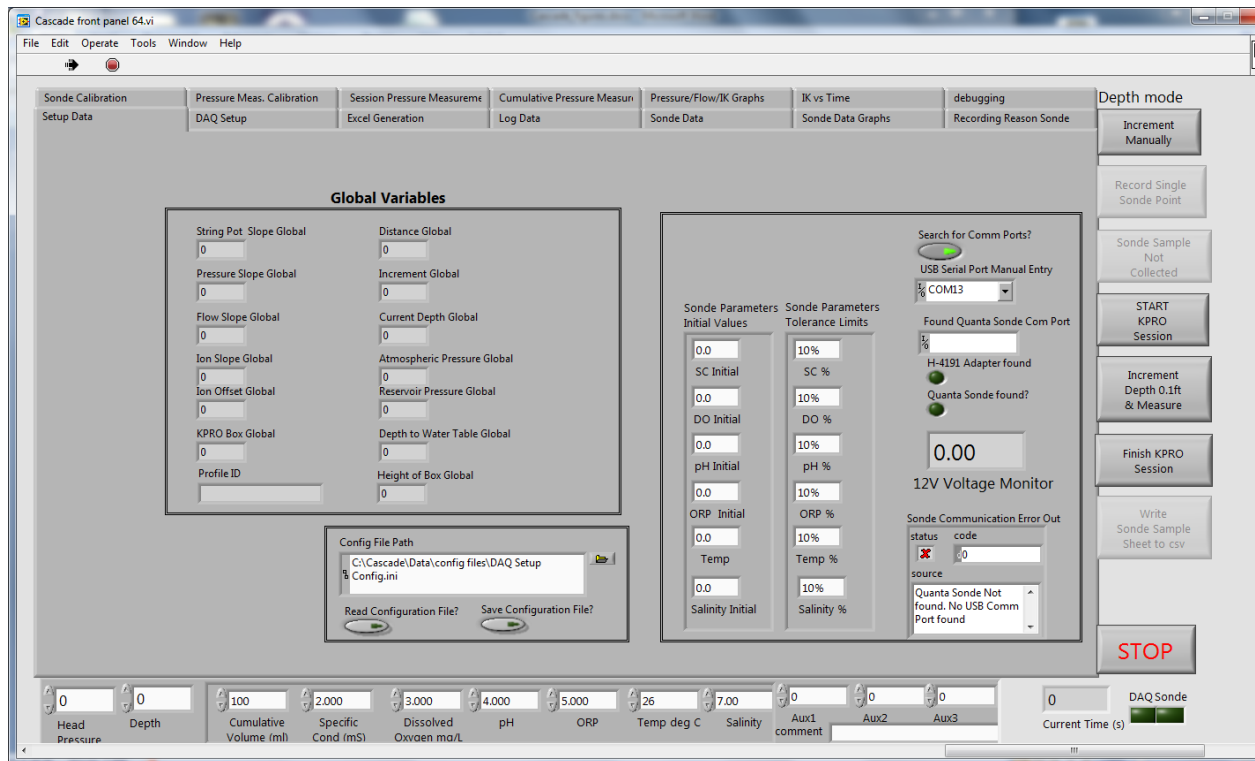
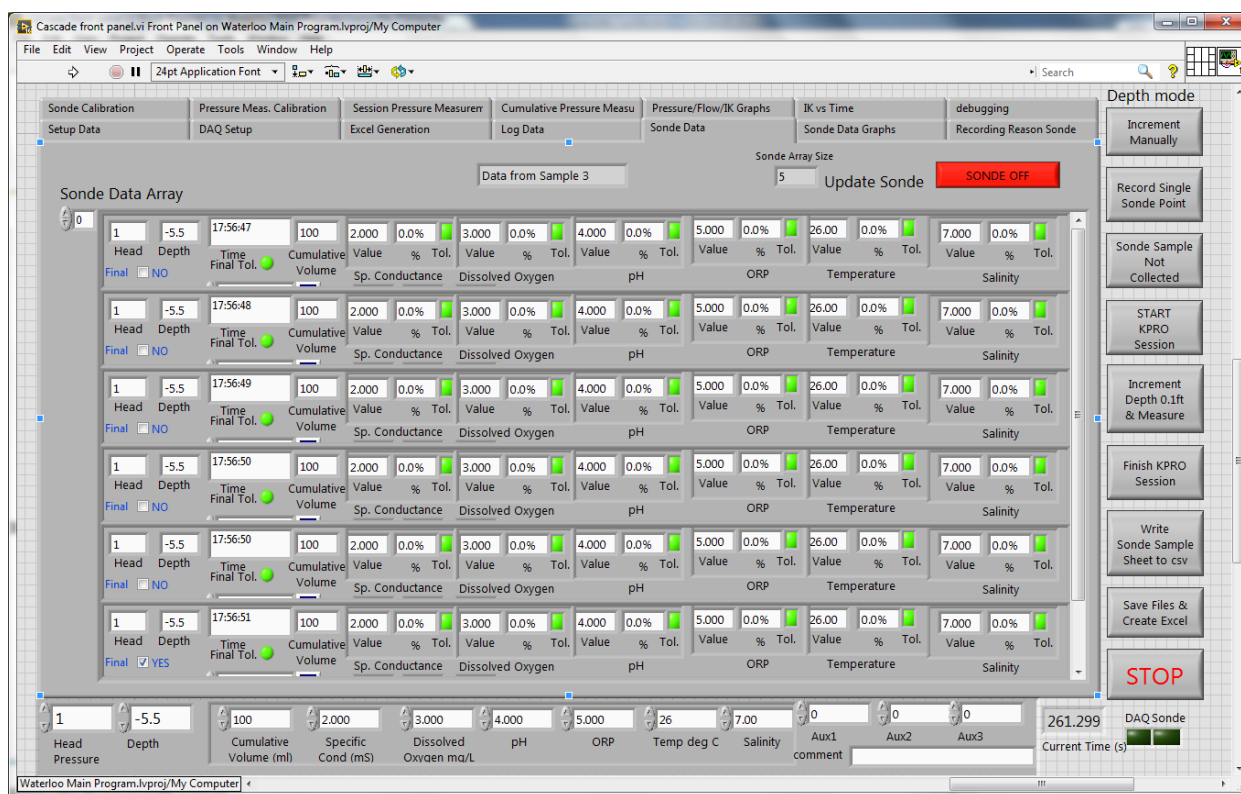

Figure 1: Setup Tab
Figure 7: Sonde Data Tab
1. The first tab is the “Setup Data” tab shown below in Figure 1; this tab has the controls for the main data directory for Excel Reports, the control for the Excel templates and the path to the template that is copied to the profile directory and then populated. Below those controls is the controls for the configuration file path and the usage of the configuration files.
- ii. If the Waterlog H-4191 RS-232 to SD-12 interface has been properly found and communications have been established, then the “H-4191 Adapter Found” indicator light will be illuminated. (It is not illuminated on the example shown above in Figure 1.) The Waterlog H-4191 interface also reads and reports the 12V power supply input from the external power supply. This reading is shown in the “12V Voltage Monitor” numerical indicator. If this reading is greater than or equal to 11.75V, then the “Sonde” square indicator in the lower right hand corner of Figure 1 will be illuminated.
- iv. The last indicator on the “Setup Data” tab is the error indicator for communications with the H-4191 and the Quanta Sonde. For the case of the screen capture shown in Figure 1, the computer was not connected to the H-4191 adapter or the sonde, so the error message shown indicates that the “Quanta Sonde was not found and no USB serial ports were found,” and a red X is displayed in the status indicator. If communications were properly established, then the status indicator would have a green check and the error message would be blank.
The next tab is the “Sonde Data” tab. The main indicator on this page displays the logged measurements from the sonde (up to six entries in the array), as well as the head pressure, the depth, the time, the cumulative volume and the readings from the auxiliary sensors. Also shown for each sonde parameter is the percentage change from the stored initial sonde parameter value from the reference values as indicated on the Setup Data tab (Figure 1). The default parameters are used for the first percentage calculations; following that, the reference values are updated to store the previous logged sonde measurement. If the percentage change from one reading to another for an individual sonde parameter measurement is below the limits shown in the “Sonde Parameters Tolerance Limits” control on the Setup Data tab (Figure 1), (default 10%) then the tolerance (“Tol.”) indicator will illuminate. If all the tolerance indicators are illuminated, then the “final tolerance” indicator will also illuminate. The text indicator on the top center indicates to which sample set the parameter readings belong; in the case shown in Figure 7 it is for sample set 3. The scroll bar to the right can be slide down in case the display does not show all the sonde data.